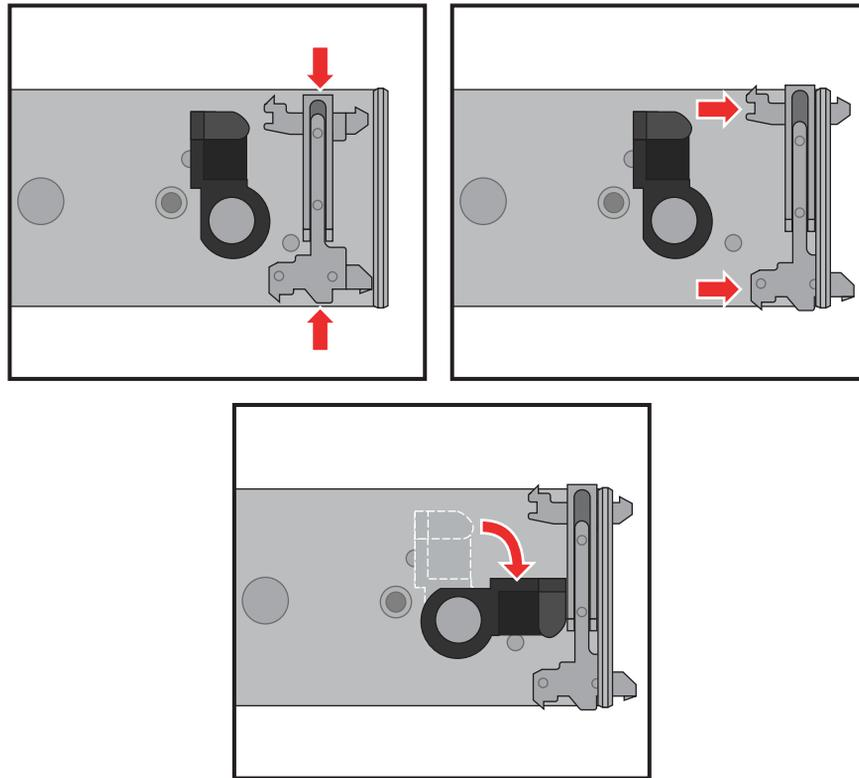

Figure 1-7 Reversing the Rail Pin Adapter
2. Squeeze the adapter’s pins together and extract it from the end of the rail, see Figure 1-7 on page 10.